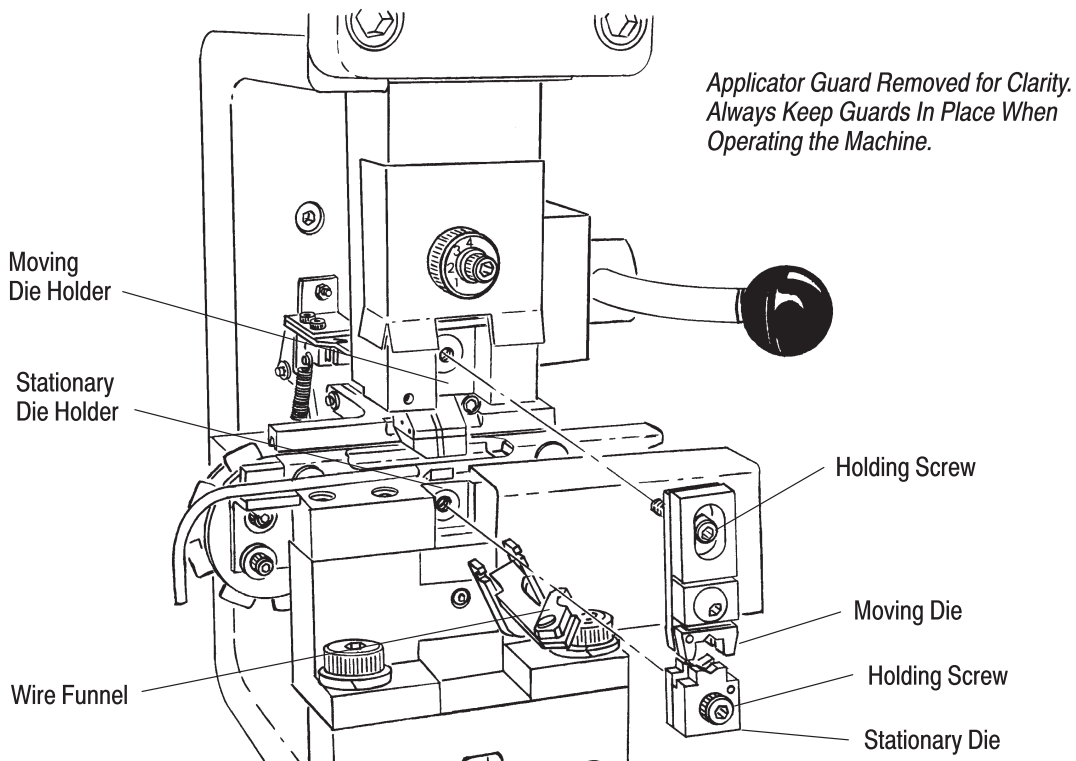

Figure 22
**A. Removal** (Figure 22)**DANGER**
**B. Installation** (Figure 22)**DANGER**